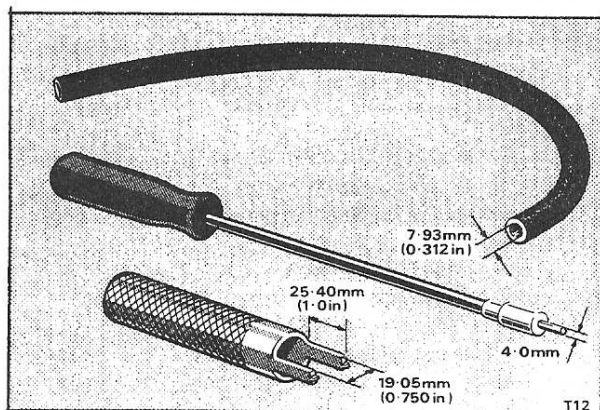

Fig. S21 Exterior door mirror tools (Silver Shadow II, Bentley T2, Silver Wraith II and Corniche)
2. Using a socket shaped tool (see Fig. S21) remove the control knob retaining ring by inserting the tool over the control knob and releasing the ring. Carefully manoeuvre the ring through the waist rail finisher.
3. Fit the flexible rubber tubing (see Fig. S21) tightly over the control knob.
5. Use a right-angled 4mm. Allen key to initially break the seal of the socket cap screws then, using a flexible tool (see Fig. S21), unscrew the socket cap screws.
7. Carefully thread the retaining ring over the control knob and finger tighten the ring; tighten the ring fully using the socket tool (see Fig. S21).